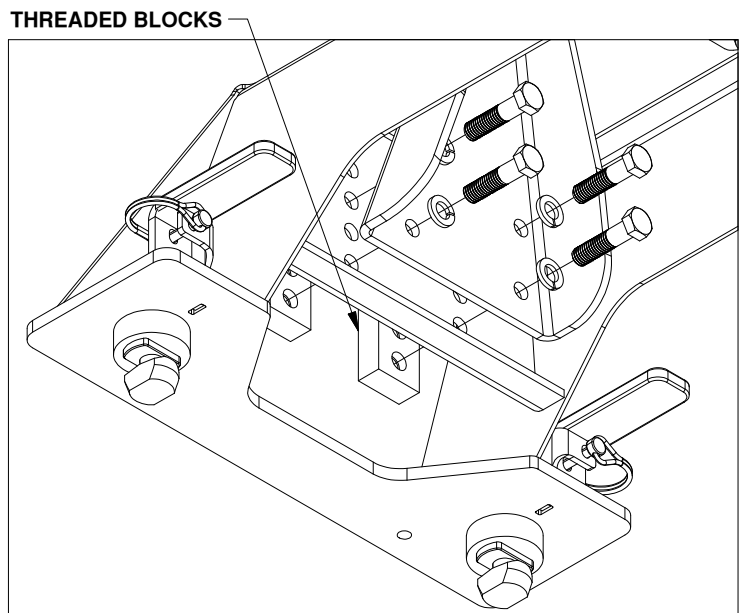

FIGURE A2: Passenger pivot arm mounting location.
2. **Secure arms.** Locate both pivot arms, the four threaded blocks, eight 1/2" cap screws, and eight 1/2" split lock washers. Place the lock washers over the cap screws. Align the flat side of the pivot arm flat against the bolt plate and install four 1/2" cap screws through the holes on the arm, holding the arm in place, as shown in Figure A2. Locate the threaded blocks. Note that the sides of the block have threaded holes on one side and smooth bored holes on the other side. When installing the threaded blocks it is critical that the side with the smooth holes is flat against the bolt plate when installed. It is also critical that each of the five vertical holes in the bed the bolt plate. Pass the threaded block under the base and align the block with each set of screws and start each screw, as shown in Figure A2. After all the screws are started through the arms, torque each bolt to 80 ft-lbs.